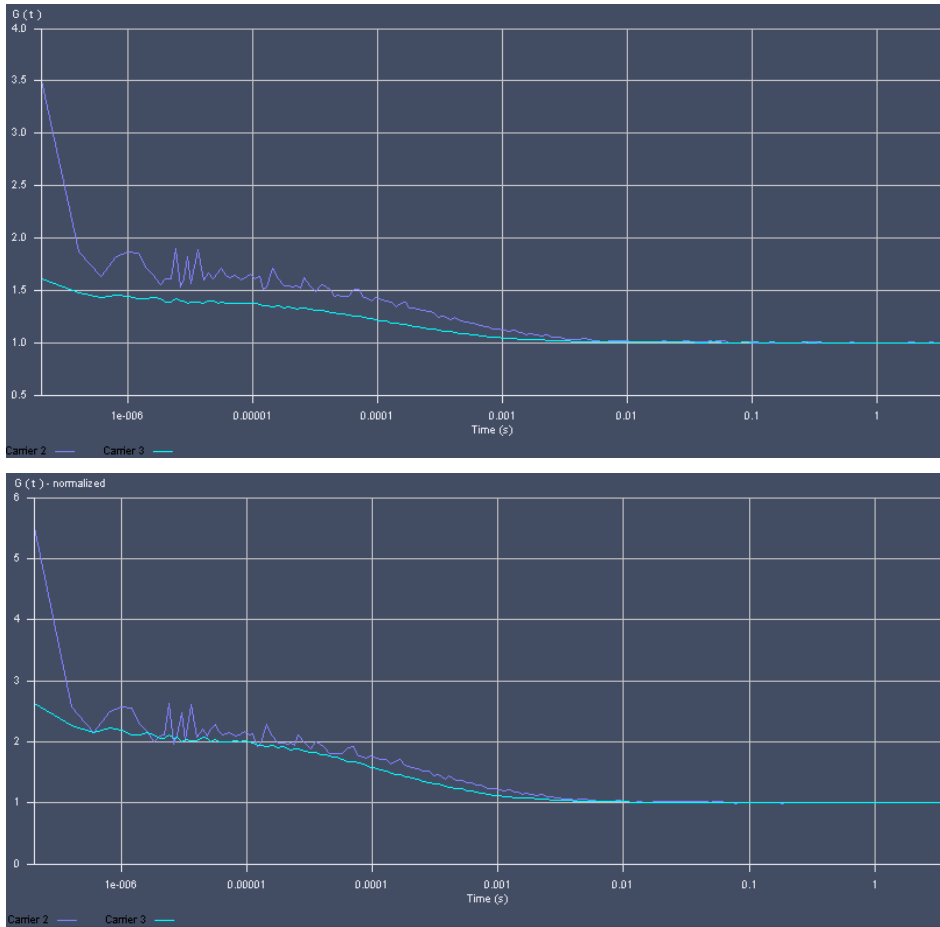

Fig. 368 The Correlation Curve window in normal (upper graph) and normalized (lower graph) display
- Selection of **Normalize** will normalize the curves to 2 (Fig. 368):